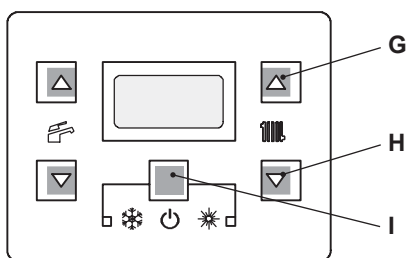
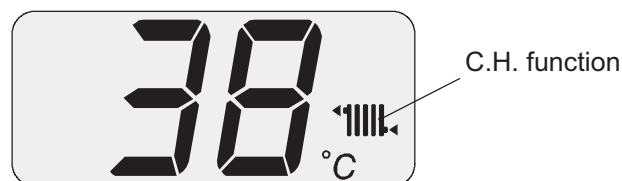

Figure 8.5
Figure 8.10
- 16 To enter in the parameters setting mode press sequentially and hold in the 3 keys ("G - H - I" Figure 8.5) for 10 second until the display shows Figure 8.6.
- 17 Press keys "G" and "H" (Figure 8.5) at the same time until the display shows the letters LP that alternate with the heating water temperature value (e.g. 45), indicating the activation of the "chimney sweep function" at minimum output (Figure 8.7).
- 24 Press keys "G - H - I" (Figure 8.5) at the same time again to exit the "chimney sweep mode" and return to the previously set boiler status (Figure 8.10);